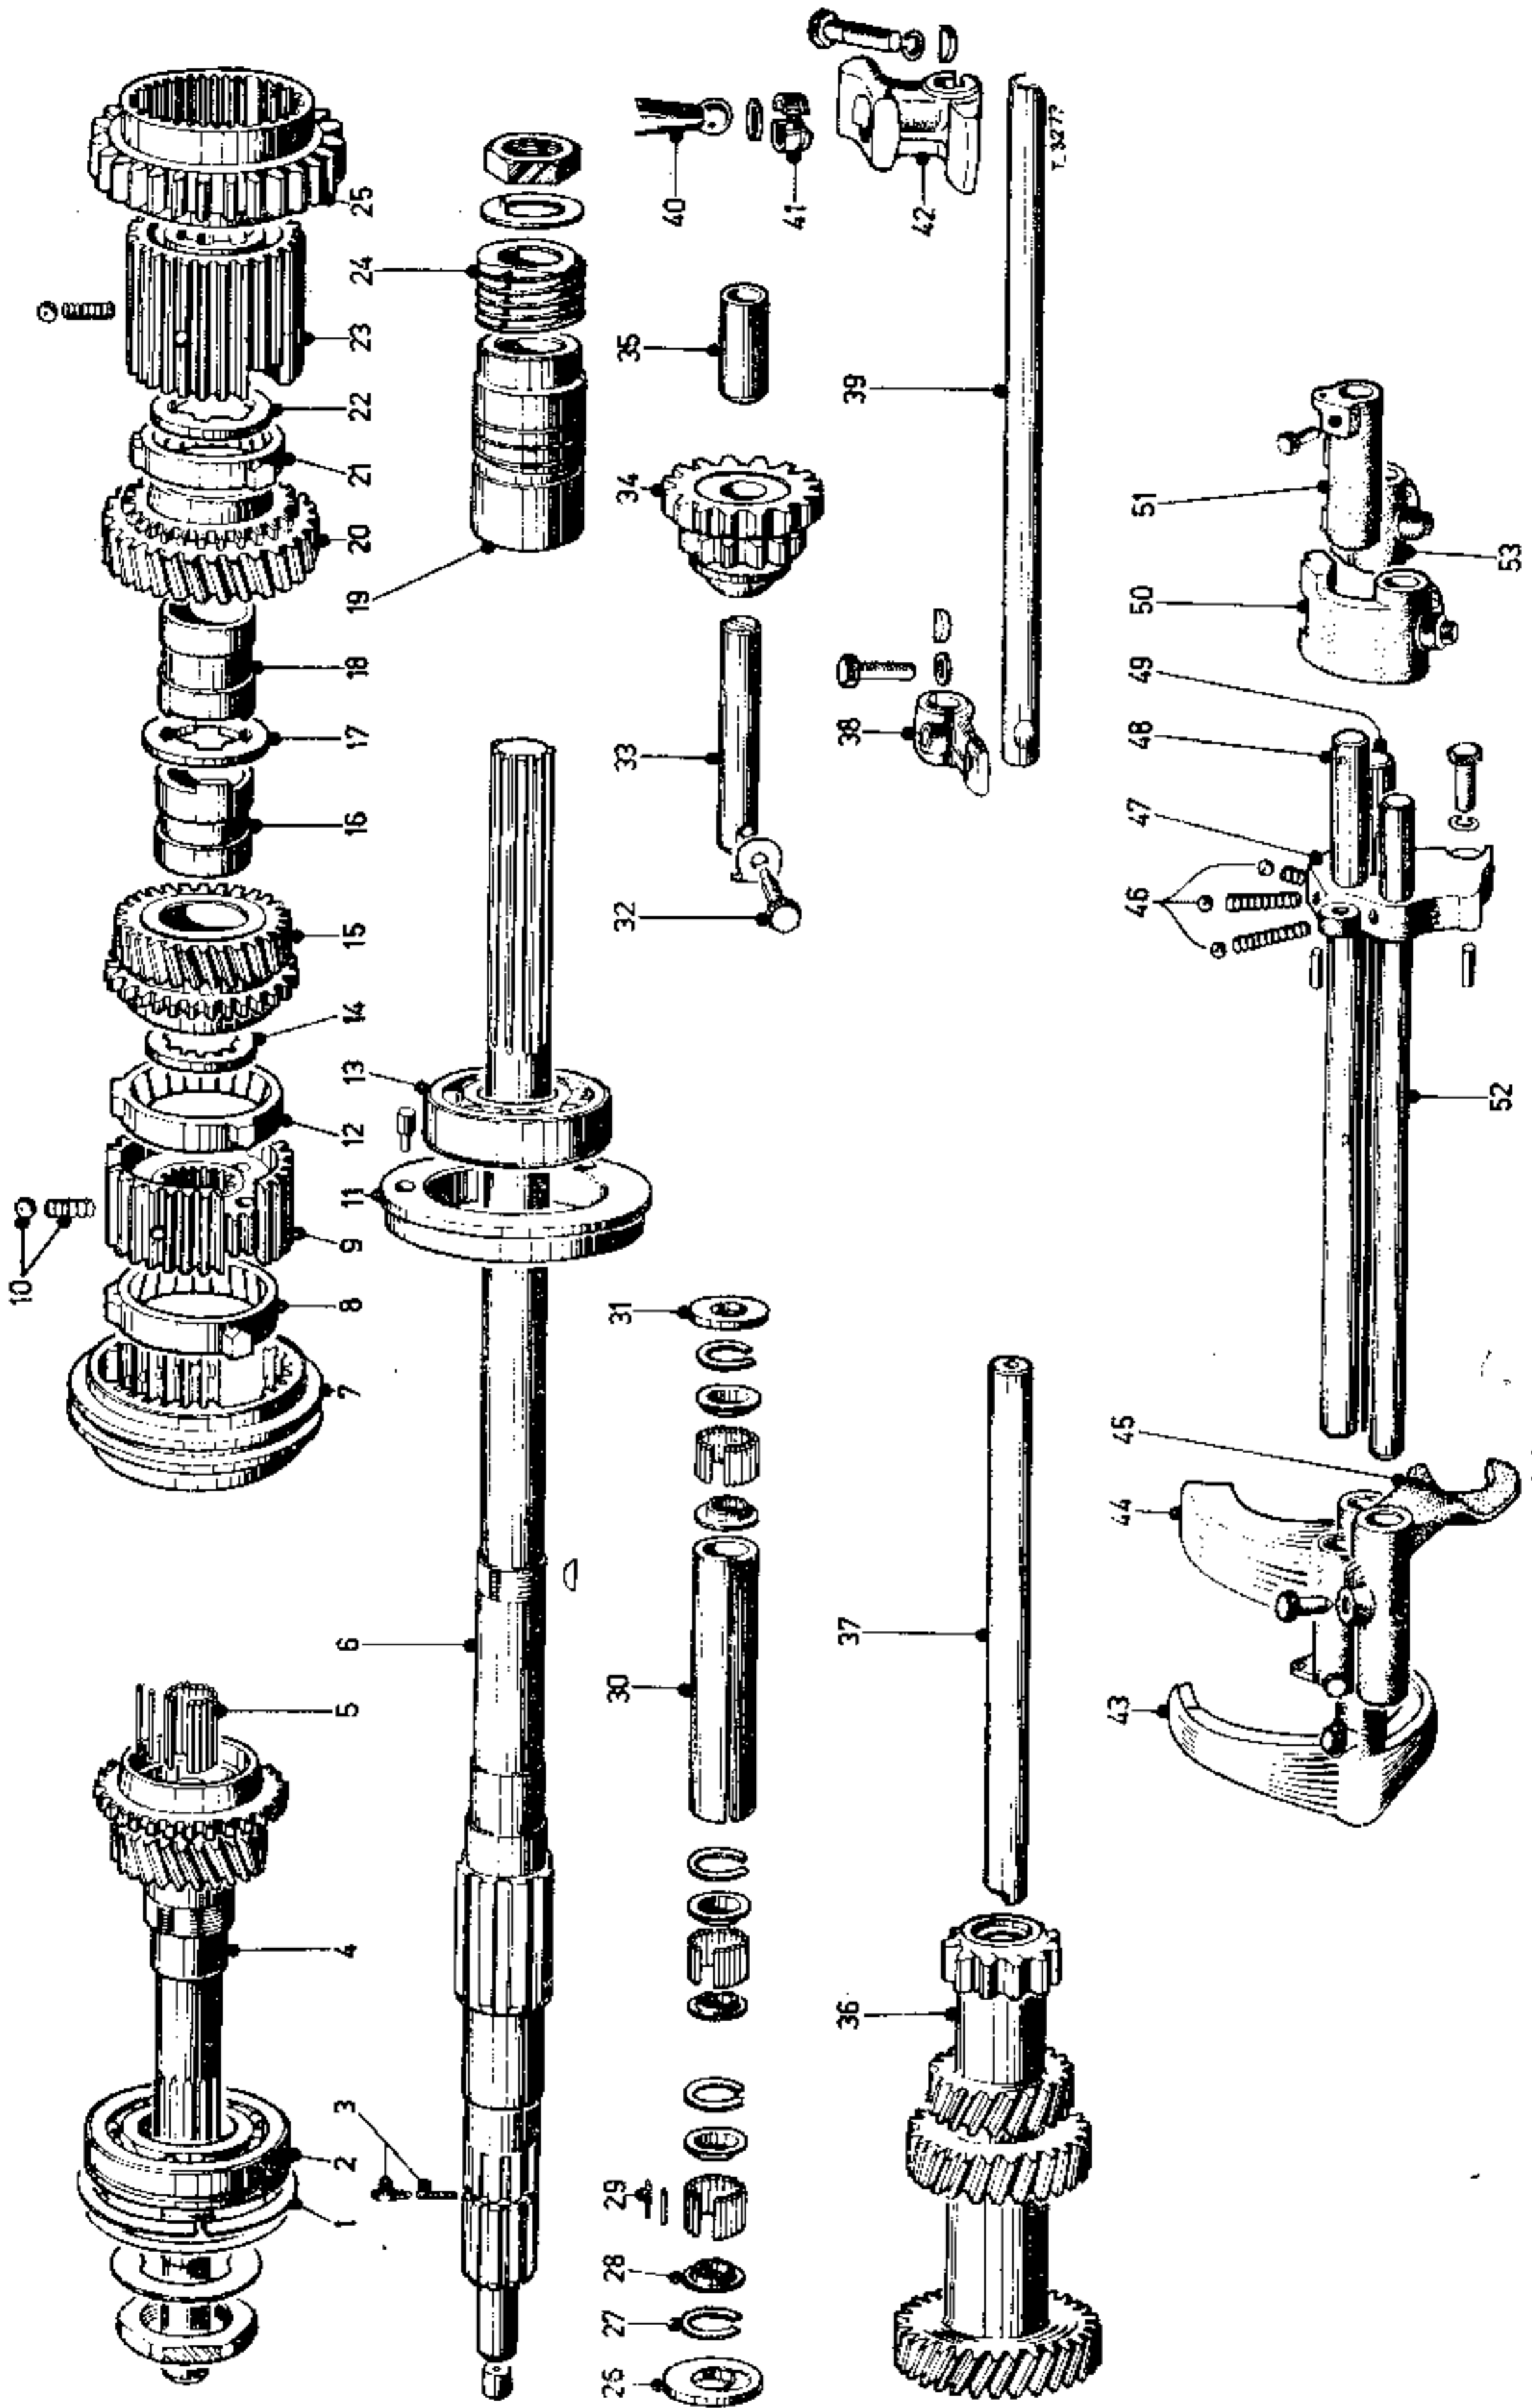

Fig. 23. Gearbox, exploded view
- (1) Remove the top-gear baulk ring, synchronizer hub (together with the synchronizer sleeve) and third-gear baulk ring. When the shifter sleeve is separated from the synchronizer hub, care must be taken not to lose the balls and springs. Depress the small spring-loaded plunger in the front end of the mainshaft and turn the splined ring so that one of its splines covers the plunger.
- (3) Slide the splined ring, together with the third-gear idler pinion and its bush, off the mainshaft; remove the plunger and the spring. Slide the interlock ring and the second-gear idler pinion, together with the bearing bush and baulk ring, off the mainshaft.
- (4) Remove the rear thrust washer and slide the second-gear synchronizer hub and the first-gear sliding pinion from the mainshaft. Take care not to lose the synchronizer balls and springs when the first-gear sliding pinion is separated from the hub.
*Key to Fig. 23*